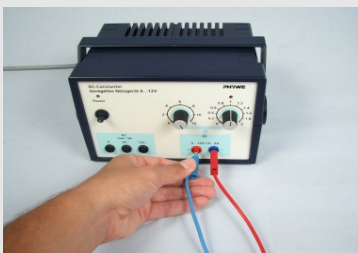

Figure 10
3. Switch off the power supply unit, pour the water out of the beaker and place the Peltier element on the table. Swap the connection cables on the power supply unit (Fig. 10).